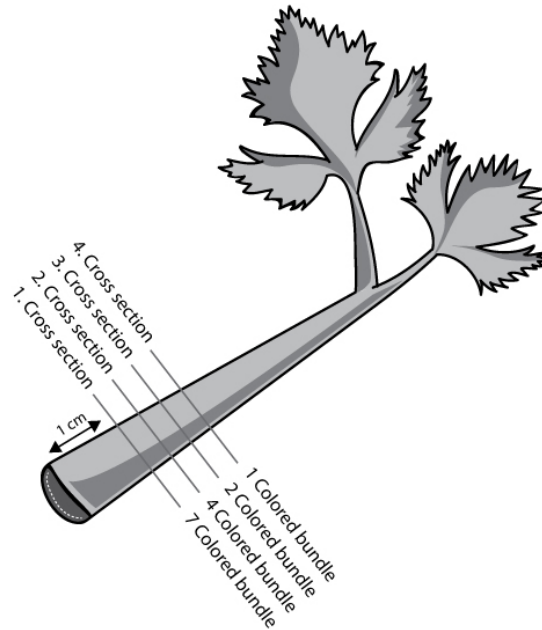

Figure 2
7. Keep cutting off 1 cm pieces from the bottom of the celery stalk until you reach a section without colored bundles (see Figure 2).